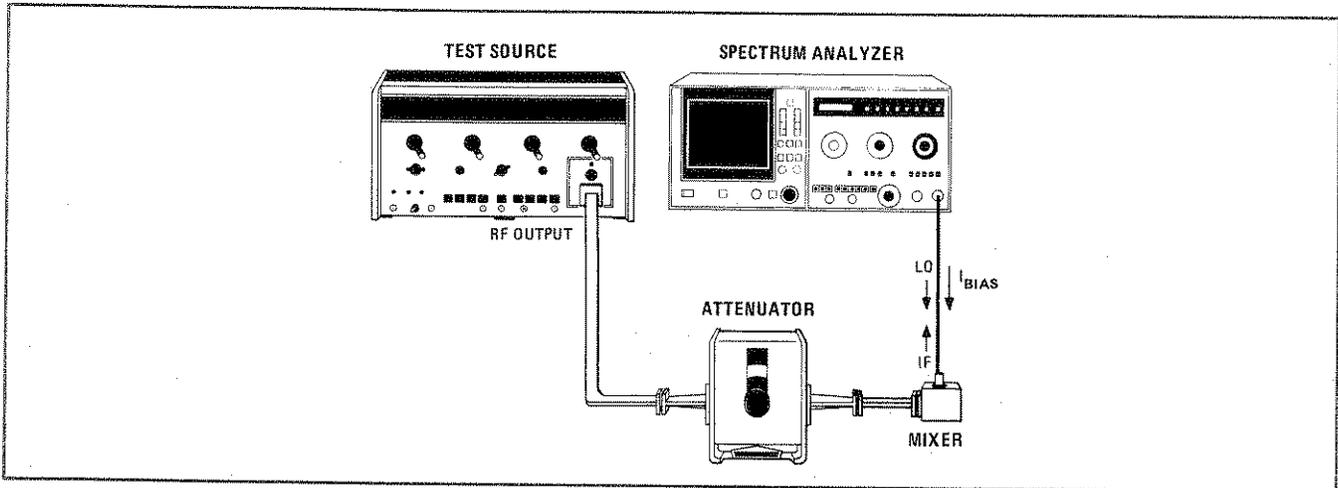

Figure 31. External Mixer Test Setup
A test setup of the HP 8569A with the HP 11517A External Mixer and adapter is illustrated in Figure 31.
1. Set up equipment as shown in Figure 31.